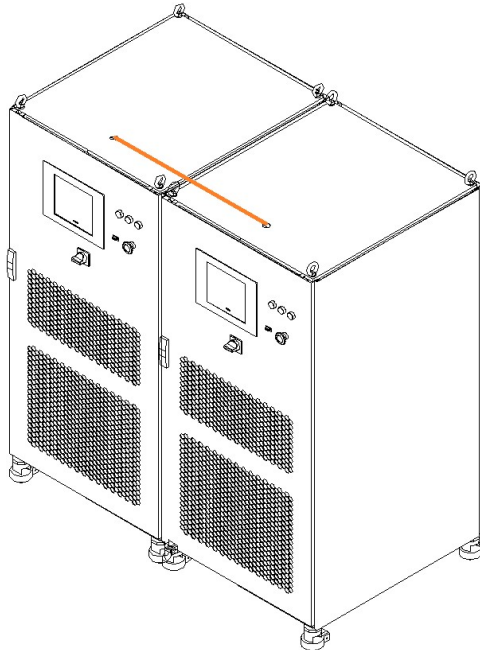

Figure 2-7 Cable hole on the top of the cabinet
Step 1: Pass the fiber optic cable through the cable hole on the top of the cabinet, as shown in Figure 2-7.